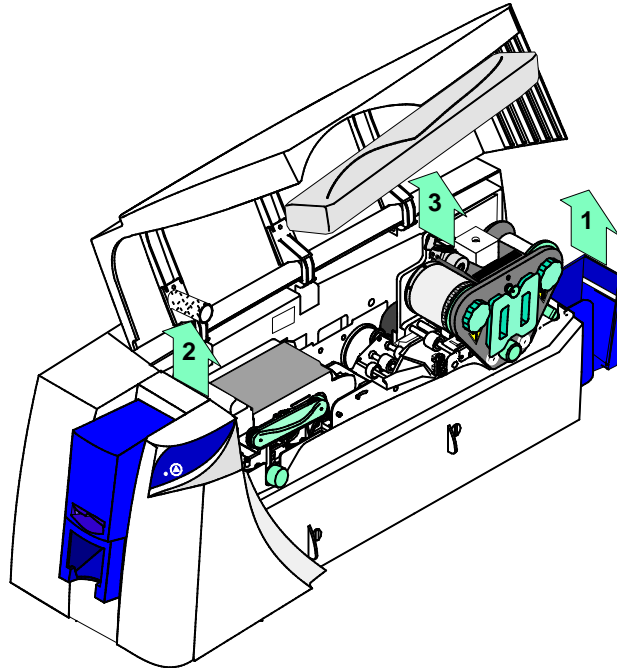

Figure 5-5: Prepare the printer for packaging
- 4 Remove the card output stacker (step 1 in Figure 5-5) and the replaceable cleaning sleeve (step 2 in Figure 5-5). Keep the cleaning spindle at your location or follow the instructions from your service provider. Discard the used cleaning sleeve.
- 6 Place the packaging support on the printer cover (step 3 in Figure 5-5). If the packaging support is not available, place bubble wrap or crumpled newspaper between the inside of the printer and cover, so that the cover will be slightly raised when you close it.